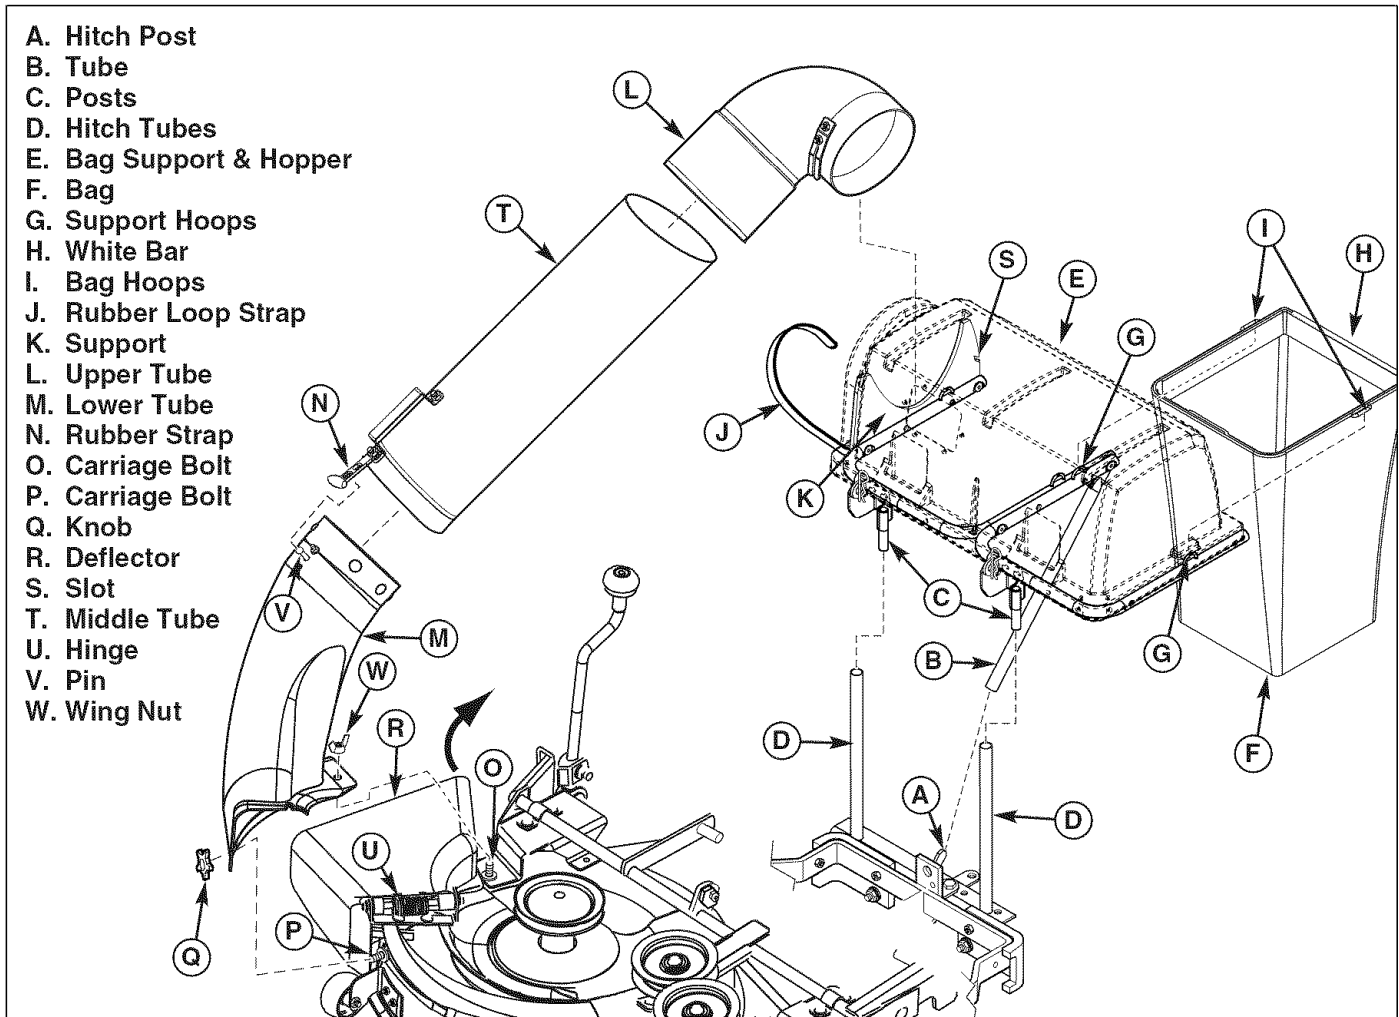

Figure 12. Normal Installation & Removal
1. Mount the bag support & hopper (E, Figure 12) by inserting tube (B) over hitch post (A) and inserting posts (C) into hitch tubes (D).
2. Pivot bag support and hopper (E) up. Install bag (F) with white bar (H) towards the rear. Set bag hoops (I) on bag support hoops (G) as shown. Repeat for other side.
3. Lift discharge deflector up (R). Place the front hole of the lower tube (M) onto carriage bolt (P). Slide front edge of lower tube (M) under hinge bracket (G). Place the rear hole of the lower tube (M) onto carriage bolt (O) as shown. Secure knob (Q) onto carriage bolt (P). Secure wing nut (W) onto carriage bolt (O).
4. Slide middle tube (T) into upper tube (L) and send into support (K). Secure with rubber loop strap (J) by hooking it into slot (S).
5. Slide middle tube (T) over lower tube (M). Pull strap (N) and place hole completely over pin (V).
1. Unhook rubber loop strap (J, Figure 12) from slot (S).
2. Disconnect rubber strap (N) from pin (V).
3. Remove upper tube (L) & middle tube (T) from support (K) and lower tube (M).
4. Remove wing nut (W) from carriage bolt (O). Remove the knob (Q) from carriage bolt (P). Remove the lower chute (M) from carriage bolt (P) and carriage bolt (O). Remove lower tube (M).
- IMPORTANT:** See that discharge deflector (R) returns to the DOWN position.
5. Lift and remove bag support and hopper from hitch tubes (D) and the hitch post (A).